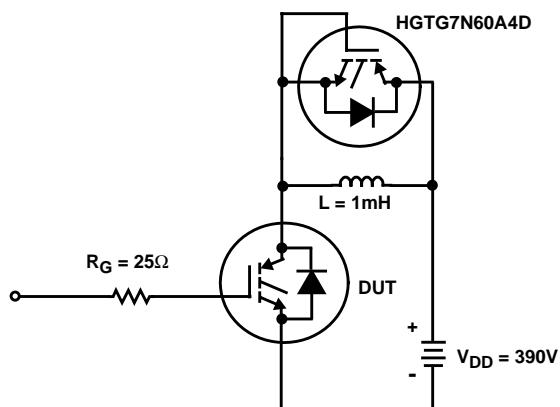

FIGURE 24. INDUCTIVE SWITCHING TEST CIRCUIT
- Values for two Turn-On loss conditions are shown for the convenience of the circuit designer. $E_{\text{ON}1}$ is the turn-on loss of the IGBT only. $E_{\text{ON}2}$ is the turn-on loss when a typical diode is used in the test circuit and the diode is at the same T_J as the IGBT. The diode type is specified in Figure 24.